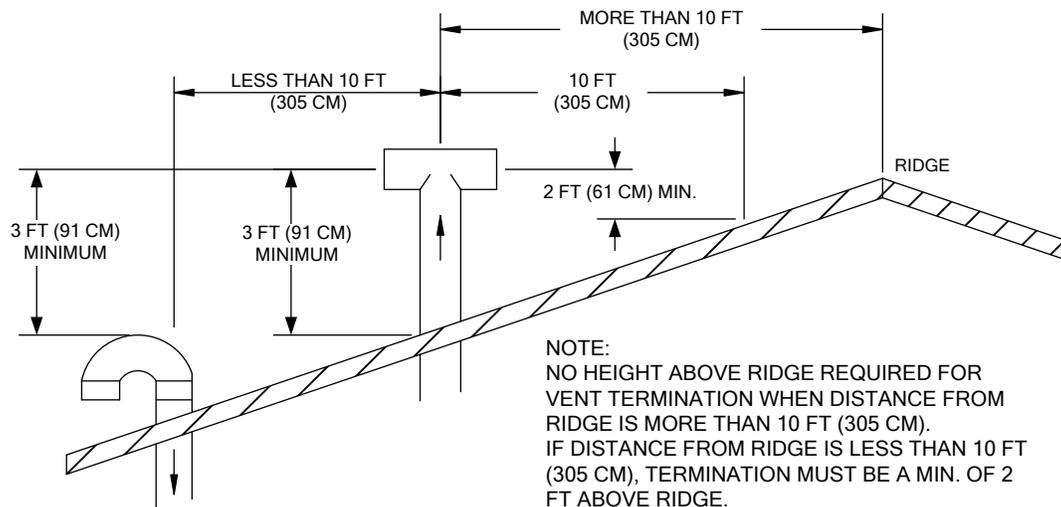

Figure 8. Acceptable Combustion Air Inlet & Vent Outlet Configuration
Refer to the notes below and Figure 8, when determining the location of the vent outlet.
- Combustion air inlet must be 3 ft below any vent outlet, within 10 ft. See Figure 8.
- Combustion air inlet must also face away from the vent outlet see Figure 8.